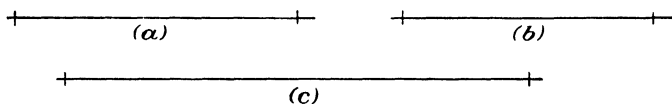

Fig. 135.
1. Divide the lines in Fig. 135 into 5 equal parts after drawing them *in your notebook*. Check the results with a steel rule.